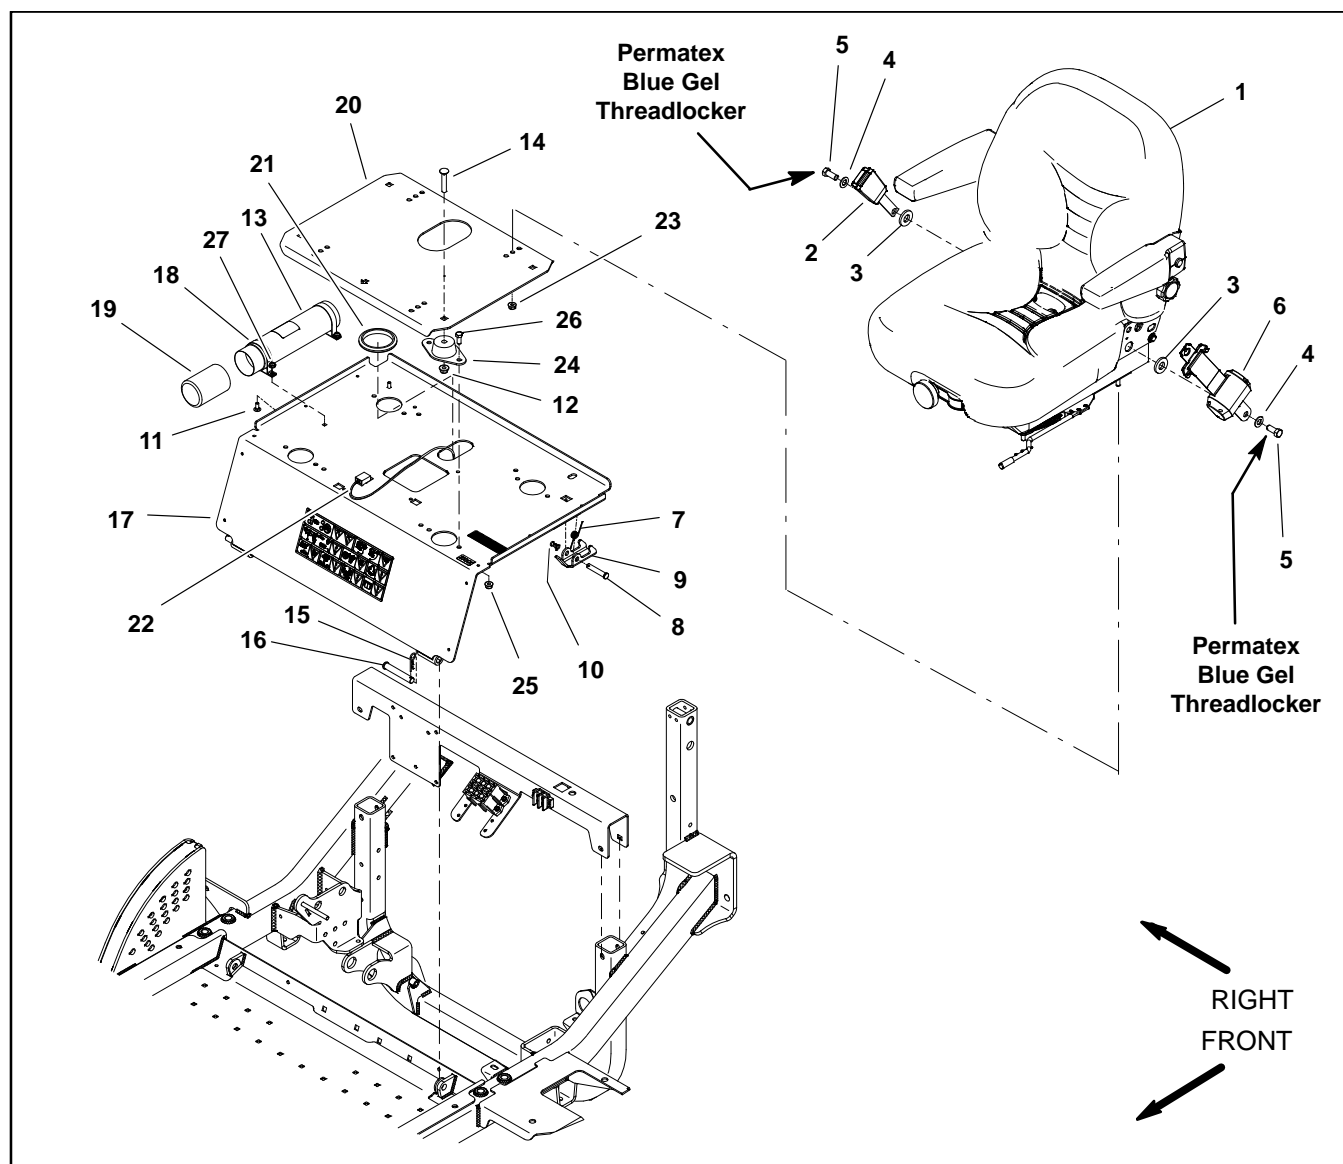
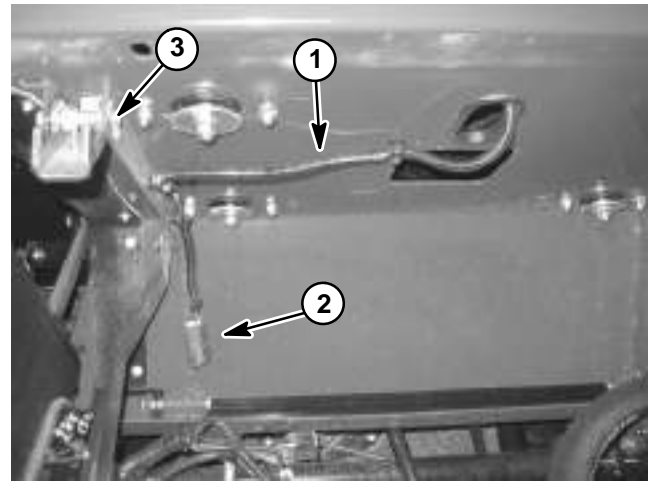

Figure 56
Figure 57
Removal (Fig. 56)
3. Disconnect machine wire harness electrical connector from the seat wire harness connector (Fig. 57). Note routing of seat wire harness for assembly purposes.
4. Support seat and upper seat plate (item 20) to prevent them from shifting during seat removal.
5. Remove four (4) carriage screws (item 14) and flange nuts (item 12) that secure seat and upper seat plate assembly to seat plate (item 17). Remove seat and upper seat plate assembly from machine.
6. Remove seat parts and seat plate (item 17) as necessary using Figure 56 as a guide.
Installation (Fig. 56)
1. Install all removed seat parts using Figure 56 as a guide.
- A. If seat belt (item 6) or seat belt latch (item 2) were removed from seat assembly, apply Permatex Blue Gel Thread locker (or equivalent) to threads of cap screw (item 5) before installing screw.
2. If seat plate (item 17) was removed, secure seat plate to machine using Figure 56 as a guide.
3. Position seat and upper seat plate assembly to seat plate. Secure assembly with four (4) carriage screws (item 14) and flange nuts (item 12).
4. Connect wire harness electrical connector to the seat switch harness (Fig. 57).